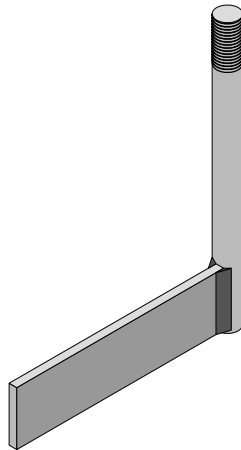

Figure 4: strut and stud fabrications.
- 10) Cut pieces of 40 x 6 mm steel bar 150 mm long to make the wheel stud struts shown in Figure 4. You will need four for each wheel. To make the long bolts cut the heads off 40 mm bolts and weld on pieces of 12 mm round bar 180 mm long. Check how thick your timber is and change the length here to suit if you need to.